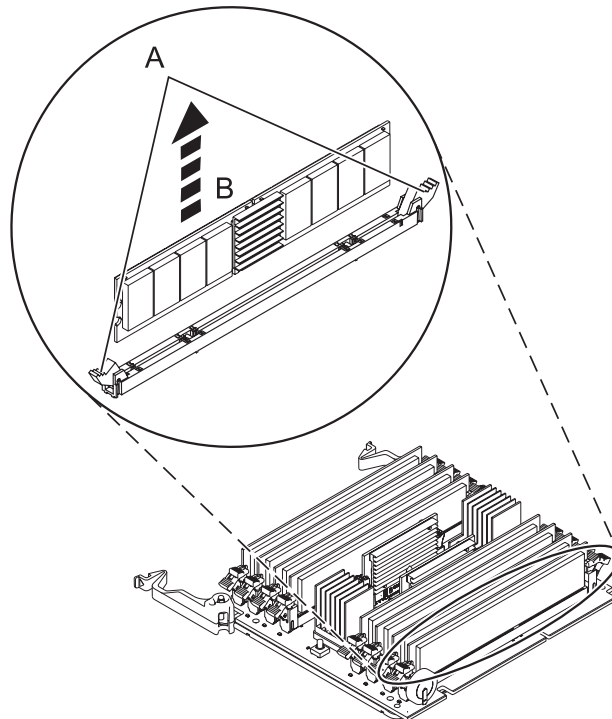

Figure 16. Removing a memory module
9. Unlock the memory module by pushing the locking tabs (A) open as shown in Figure 16. Lift the memory module (B) out of the connector. The lever action of the tabs forces the memory module out of the connector.